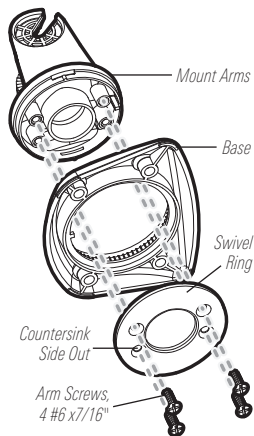

Figure 5
3. Secure the mount arms with the 4 #6 screws provided (Figure 5). **Hand tighten only!**